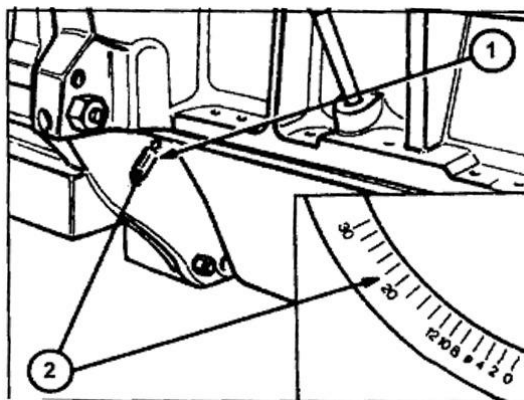

Fig. 5.3.9b. Timing setting.
- remove the plug 1 (Fig. 5.3.9b),
- set the piston of No. 1 cylinder in TDC position after compression stroke (both valves must be closed) – the arrow on the guard should align with “0” timing mark on the flywheel (Fig. 5.3.9b),